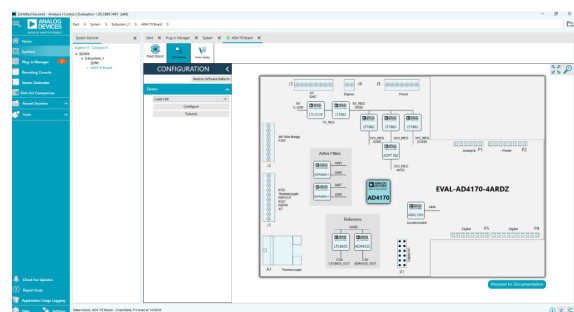

Figure 8. AD4170-4 Evaluation Board View
7. Double click the **AD4170 Board** icon to open the AD4170 board view as shown in Figure 8, and select the load cell demo mode.